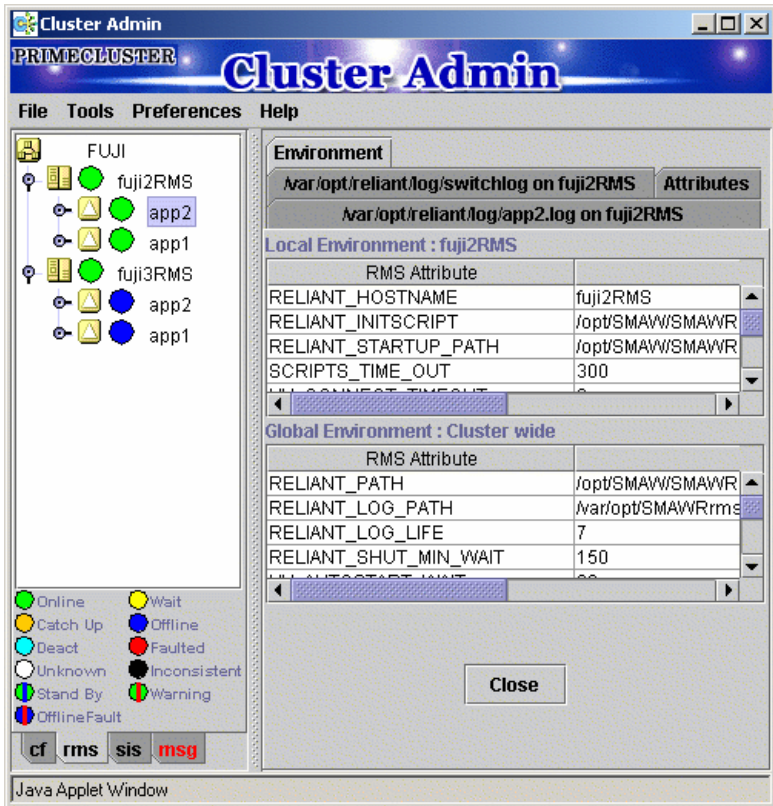

Figure 95: Local environmental variables window
- i** Displaying the local environment variables displays the clusterwide environment variables as well (see Figure 95).